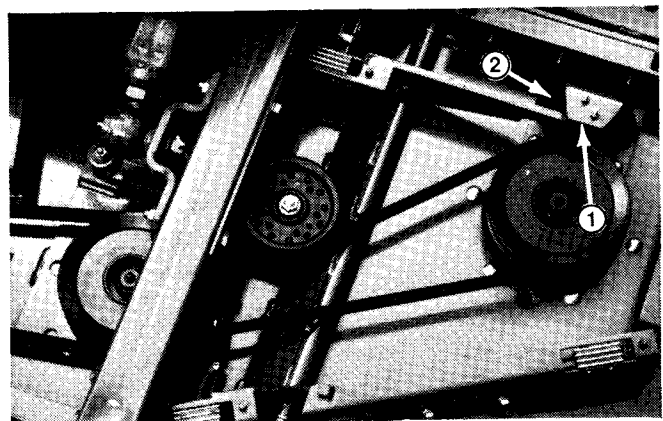

Figure 7
4. Check for front cutting unit WING and WING BLADE mismatch (page 7-5). Adjust wings by adding or removing shims between rubber pad and bracket (Fig. 7). Adjust blades by adding or removing washers between spindle housing and bottom of cutting unit.